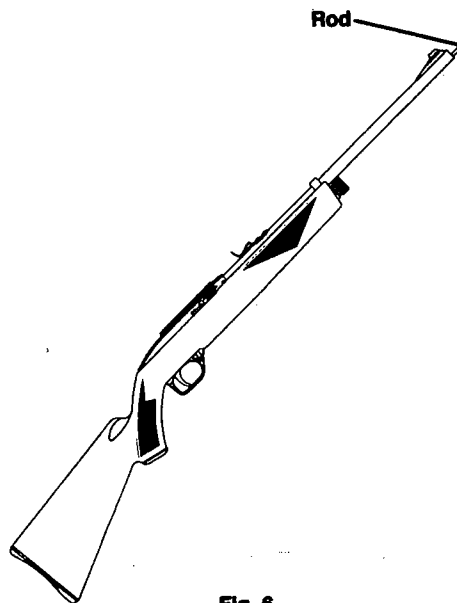

Fig. 6
- To be sure the air rifle is completely unloaded, insert a rod or straightened clothes hanger into the barrel and carefully push the rod or hanger through the barrel. (Fig. 6)